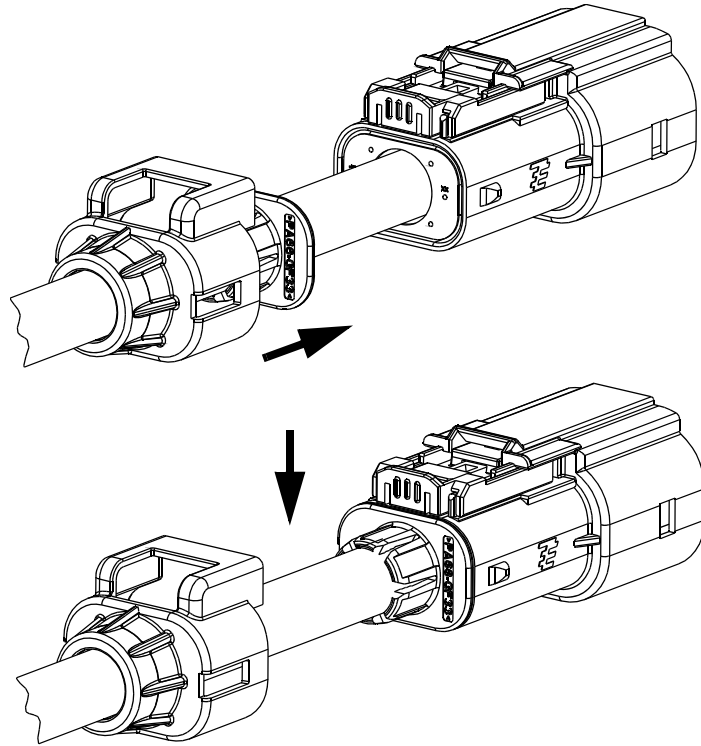

Figure 22
21. Slide the collet forward on the cable until it stops against the outer housing as shown in Figure 22.